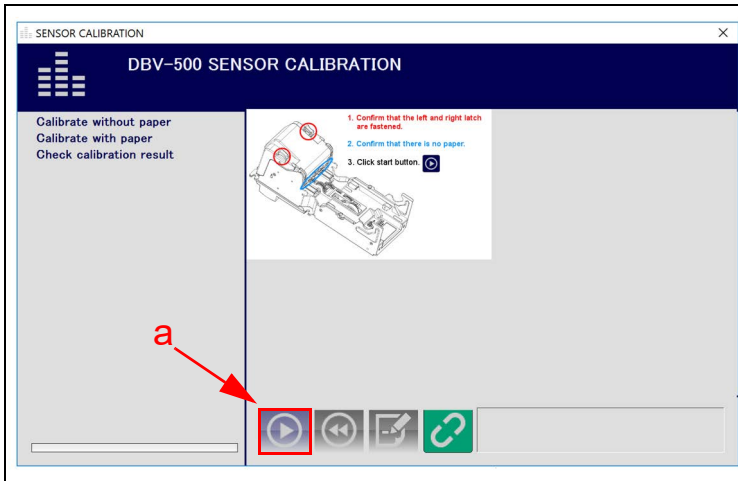

Figure 9 DBV-500 S Sensor Calibration Function
The SENSOR CALIBRATION screen appears momentarily (refer to Figure 9).
- Follow the onscreen prompts and click the Start button (Figure 9 a) to begin the DBV-500 S Validation Sensor Calibration.